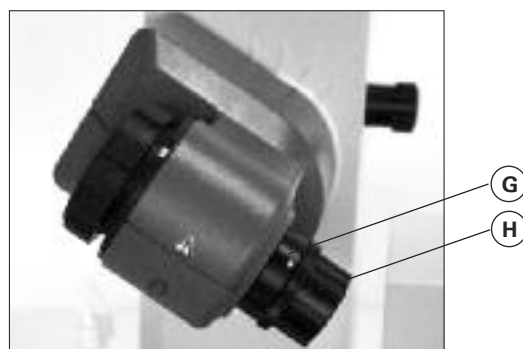

Fig. 9
- ☞ Release the locking device on the steam pipe by turning it 60° counter clockwise (G), (fig. 9).
The plastic screw nut (H) helps loosen tight-fitting piston ground-in connections (Fig. 9).
- ☞ Hold the locking device and loosen the plastic screw nut (H).
- ☞ To do so, hold the tight-fitting evaporator piston and turn the plastic screw nut (H) until the evaporator piston neck.
*Before using the device, hand-tighten the plastic screw nut (H) against the left-hand stop. This will hold the steam pipe locking device (G) firmly in place.*